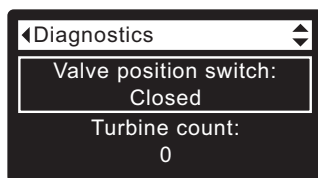

FIG. 105
2. Press the DOWN (▼) button to scroll through the list until **Valve position switch** is displayed (See Figure 105).